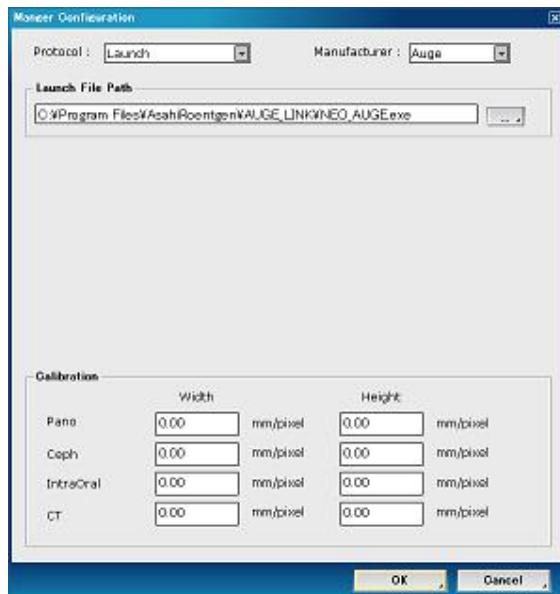

Fig. 2-16: OnDemand3D Settings
- 5) A dialog box will be displayed (Fig. 2-16). Set values to the following, and click [OK].